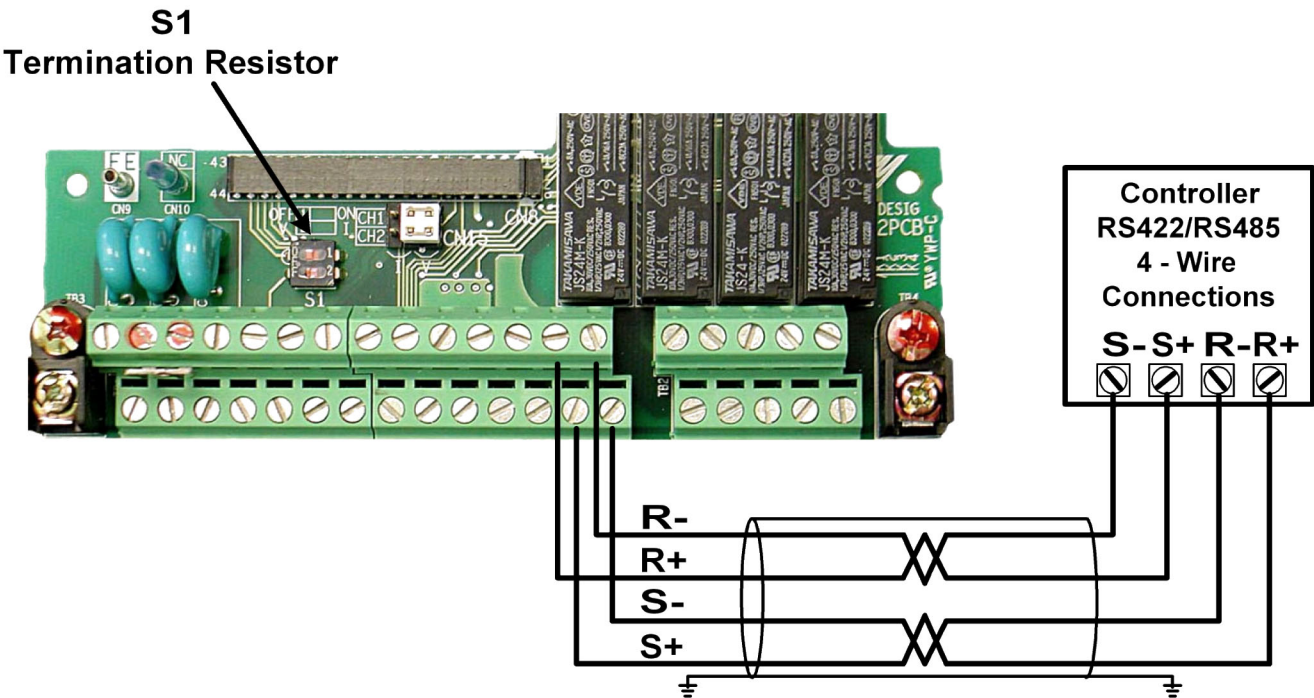

Figure 1.3 — RS422/RS485 4-Wire Network Connection
- ☐ **5.2:** Connect the controller to the S+/S- and R+/R- terminals on the F7 drive's terminal block as shown in *Figure 1.3 – RS422/485 Connections*.